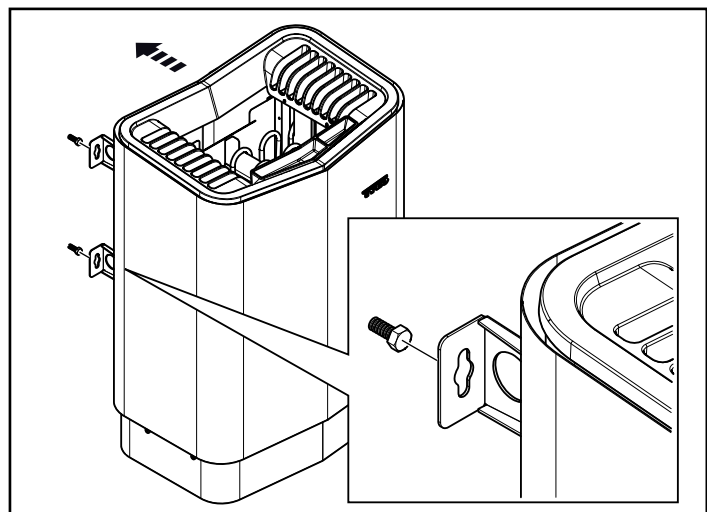

Figure 14: Hang the heater up.
11. Hang the heater on the screws see Fig. 14.